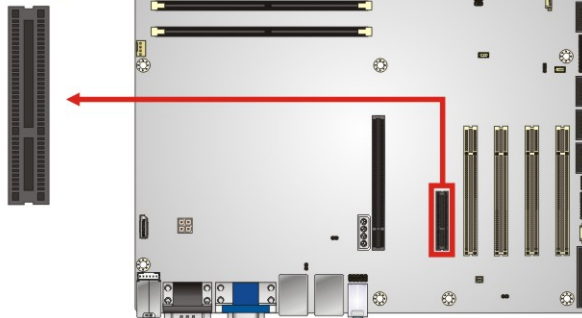

Figure 3-21: PCIe x4 Slot Location
- CN Location:** **See Figure 3-21**